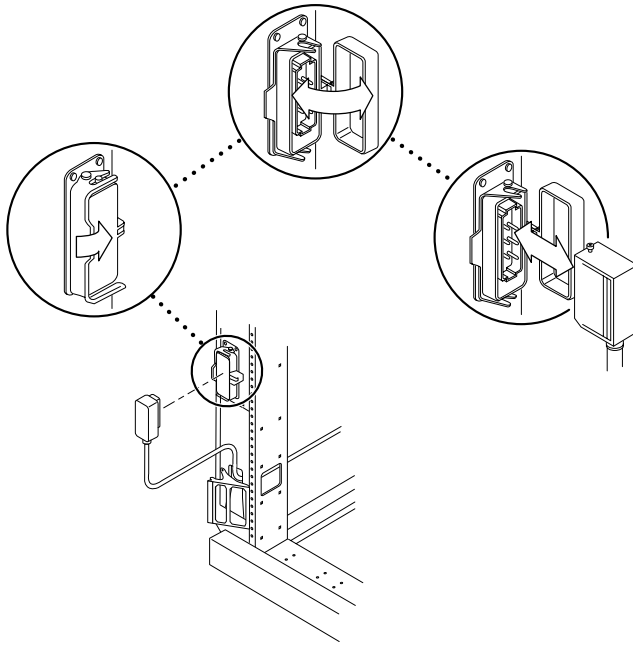

FIGURE 1-6 Power Cord Cover Latch
- FIGURE 1-6 Power Cord Cover Latch 8